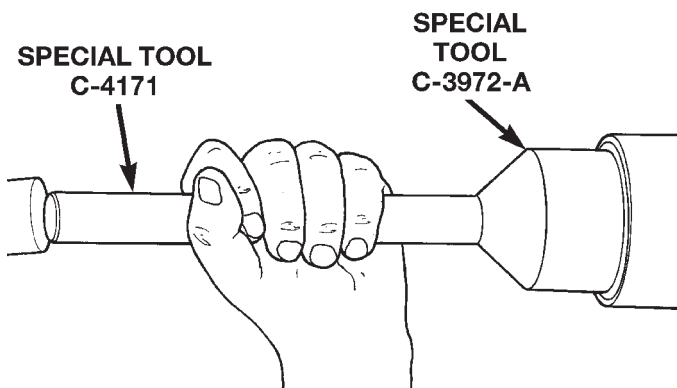

Fig. 12 Pinion Seal Installation
(1) Apply a light coating of gear lubricant on the lip of pinion seal. Install seal with Installer C-3972-A and Handle C-4171 (Fig. 12).